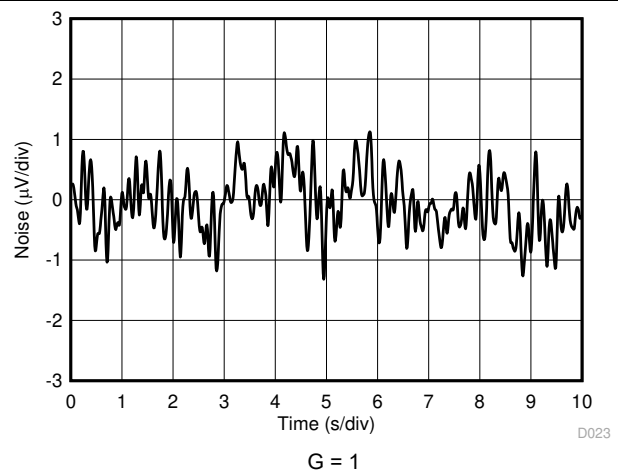

Figure 7-24. 0.1-Hz to 10-Hz RTI Voltage Noise
0.1-Hz to 10-Hz RTI Voltage Noise, $G = 1$	Figure 7-24